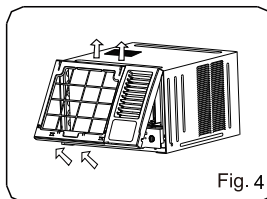

Fig. 4
- Grasp the left corner int the frame's underside, then loosen the frame (See Fig.4).